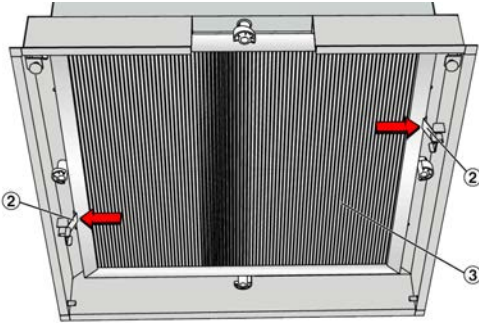

Fig. 10: Removing filters
3. ▶ Press the springs (Fig. 10/2) to loosen the filter (Fig. 10/3) and remove from the casing.